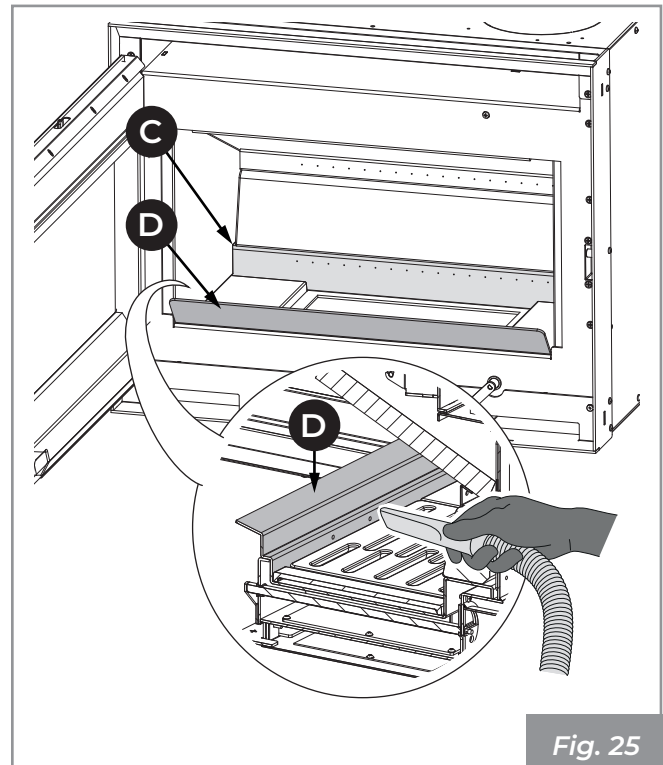

Fig. 25
- 2) Extract the ash drawer (B) from the base and vacuum out any ash deposited in the compartments below (Fig. 25).
- 3) Vacuum the rear (C) and front holes (D - if any) of the combustion air distributor in order to prevent ash from accumulating (Fig. 25).